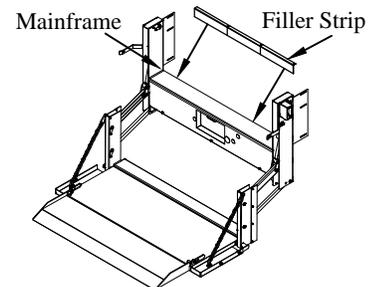

Figure 6: Filler strip location.
4. **Apply** the remaining vinyl tape the the under side of the filler strip (Figure 6).